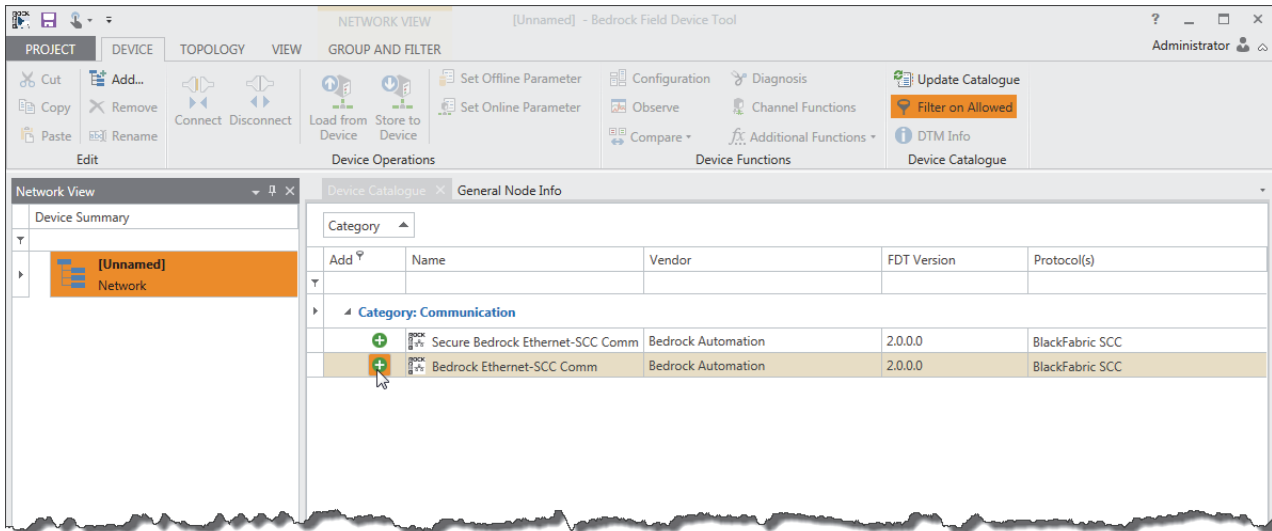

Figure 11-2 Select Communication DTM
3. Select a Bedrock communication DTM from the Device Catalogue as shown in Figure 11-2.